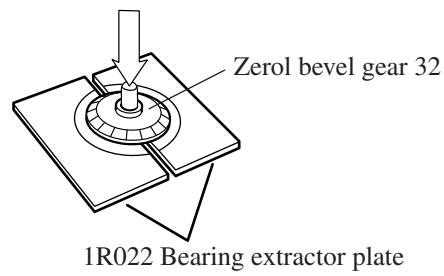

Fig. 14
- (3) Hold zerol bevel gear 32 with 1R022 "bearing extractor plate" as illustrated in Fig. 14.